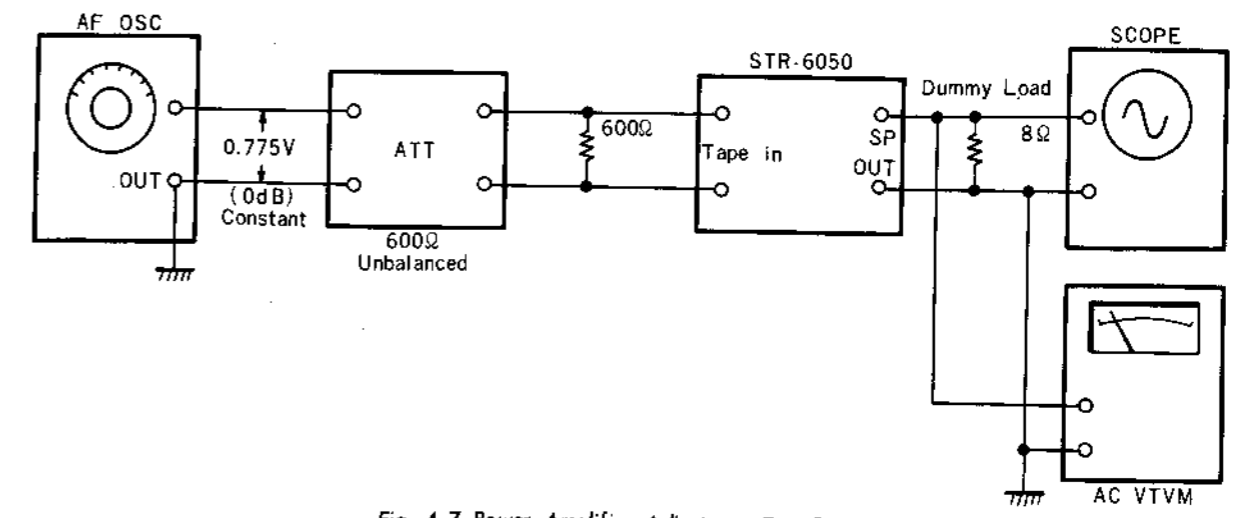

Fig. 4-7 Power Amplifier Adjustment Test Set-up
- With the equipment connected as shown in Fig. 4-7, feed a 1 kHz, 0 dB signal to the "TAPE" input terminal through the attenuator.